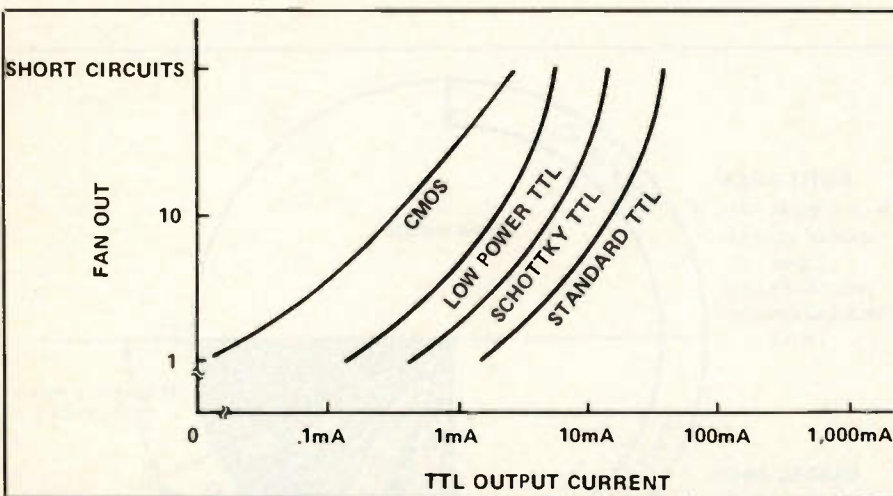

Figure 6. In most logic circuits, a short circuit will cause great enough current to allow a technician to differentiate it from normal circuit current.
6. Lastly, use of a logic pulser effectively raises the in-circuit current to a much higher level to allow easy-to-follow tracing. Therefore, whether the circuit is TTL or CMOS, the tracer can sense ac current in it. The diagram of Figure 6 further supports this, and also shows the range of currents usually present in both these IC families.
There is generally sufficiently high current for the tracer to easily differentiate fault paths from circuits containing "normal" current. See Figure 6. A faulty circuit will usually carry at least an order of magnitude more current than one operating as the circuit designer intended. This is as true for CMOS circuits as it is for TTL. Faulty CMOS circuits carry almost as much current as the low power Schottky TTL example just shown.